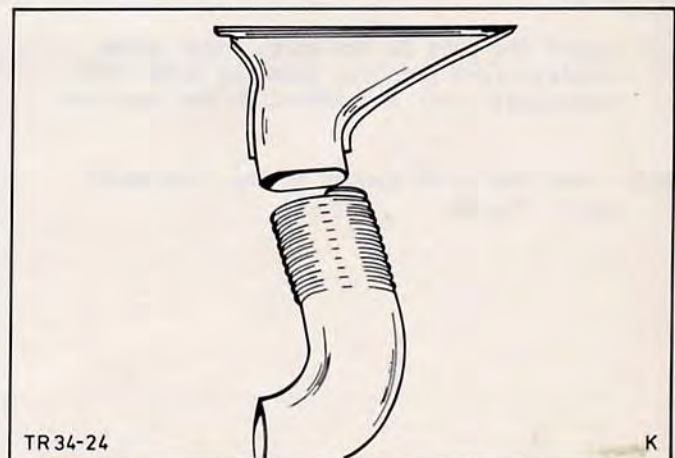

Fig.33. Detach nozzle from hose.
2. Detach the demister nozzle from the hose, Fig.33.